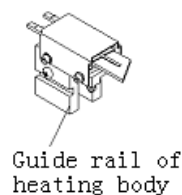

Fig4-5
c. Guide rail of heating body (Fig4-5)